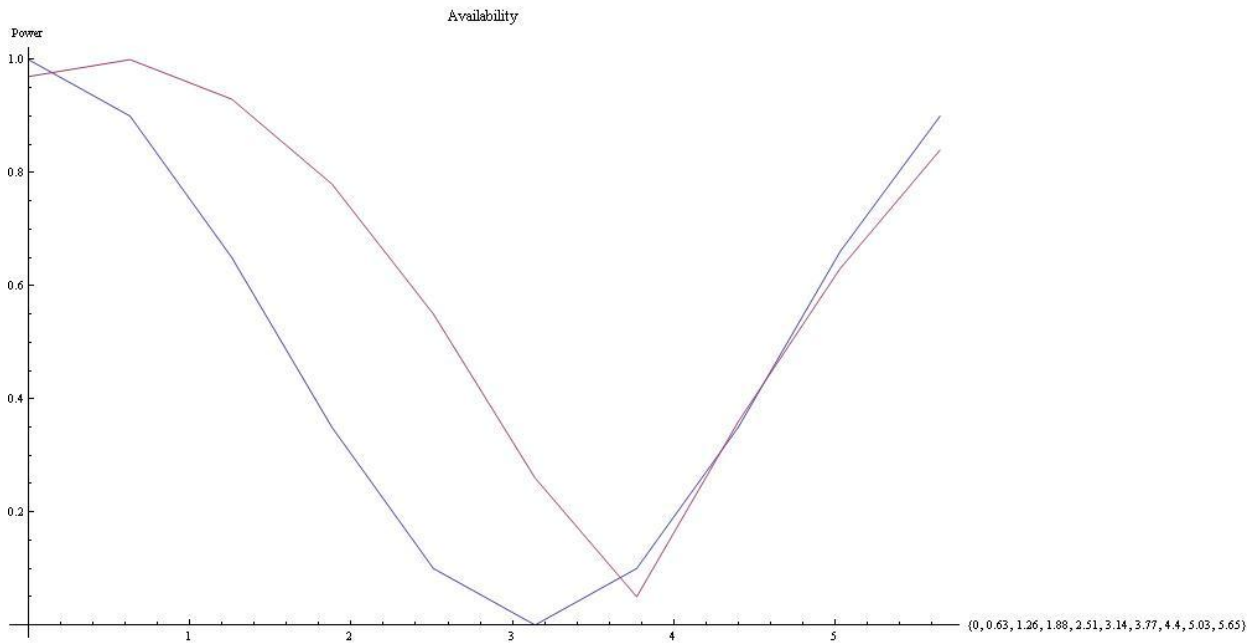

Figure 6.22 Graph created during ParaMagic execution
- c. Double-click on the hyperlink in the Containment Tree to see graph, as in Figure 6.22.